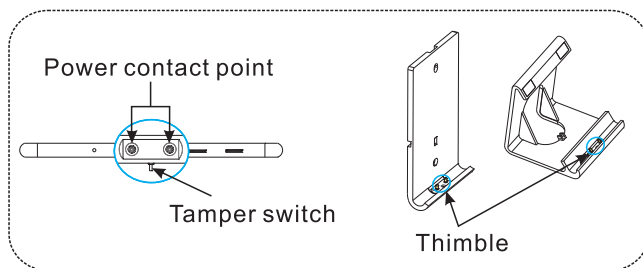

Fig. 2-3
1. After the power supply is turned on the stand, the main power contact point and the top of the stand should be placed for charging. (Figure 2-3)